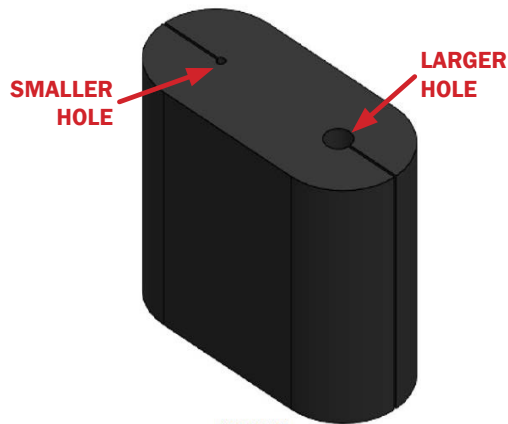
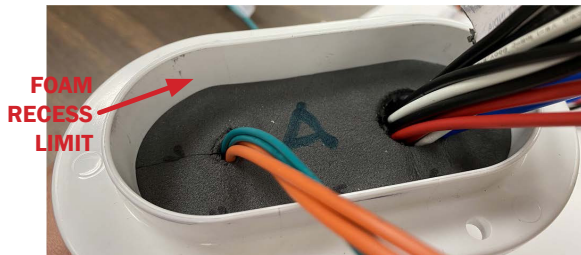

Fig. 55 Foam insert
Fig. 56 Foam recess limit: 3/4" below egress opening
3. Fit the high voltage harnesses into foam insert's larger hole. Fit low voltage harnesses into the smaller hole (Fig. 55). You may need to wiggle, twist or play with the wires to get them to seat more comfortably in the foam. Take care to evenly press/slide the foam insert into the egress until it bottoms out. The foam will be ~3/4" below top of egress (Fig. 56).